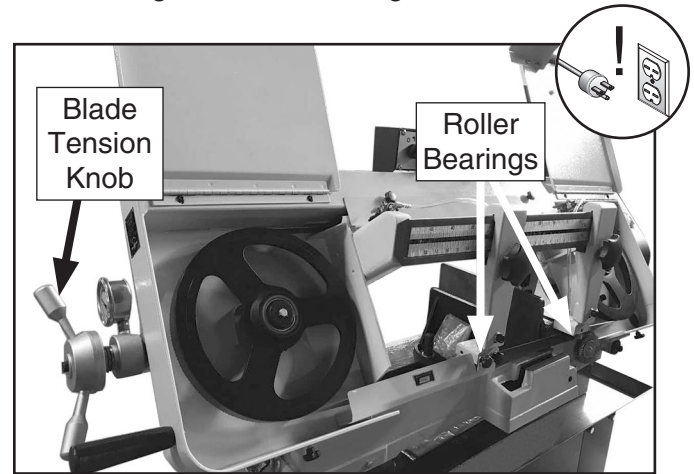

Figure 20. Wheel covers opened for blade removal.
6. Loosen blade tension knob shown in **Figure 20**. Slip old blade off of wheels, then out of blade guide roller bearings.